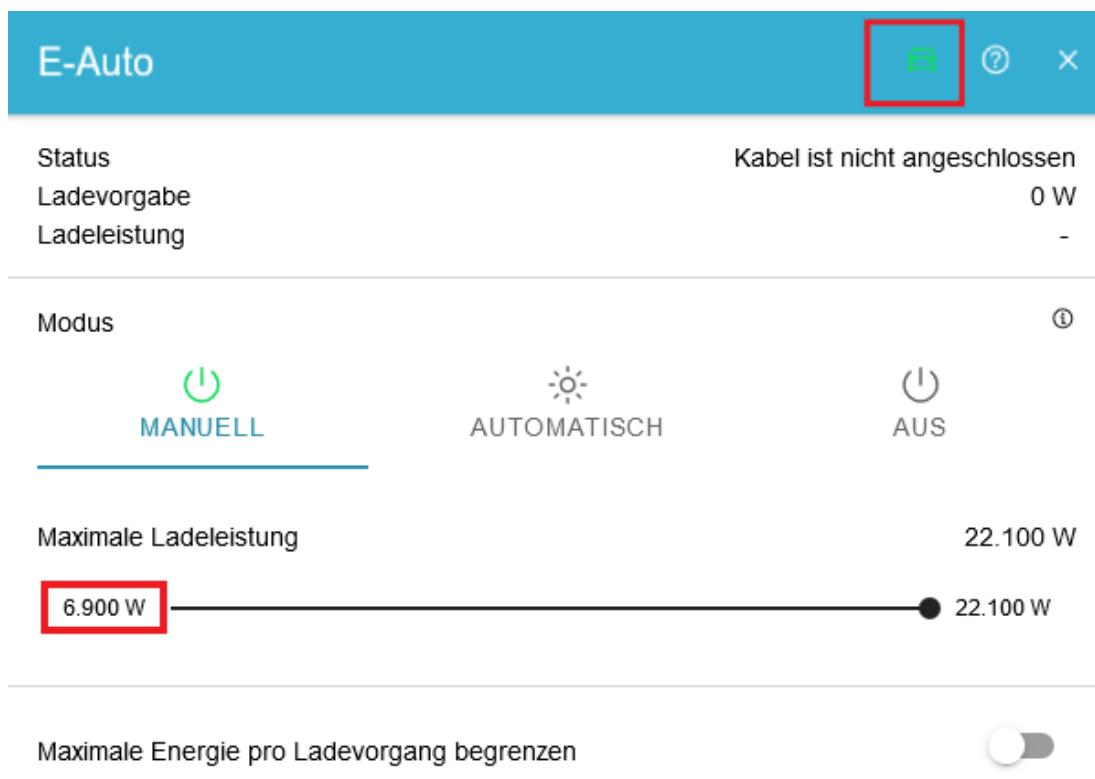

Figure 11. Vehicle management
- Figure 11. Vehicle management